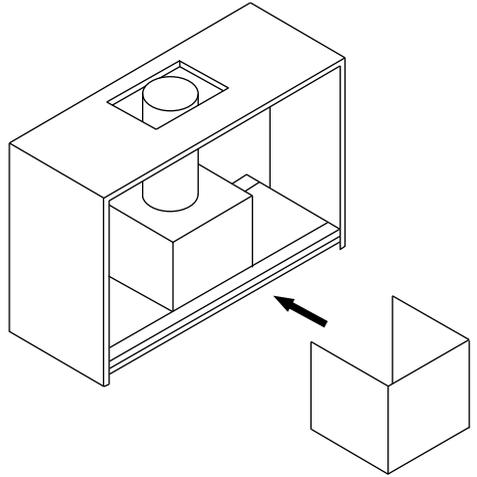

Fig 11
9. Insert motor case over motor (Fig 11).